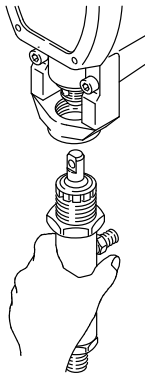

Fig. 36
**NOTE:** Some parts in Figures 36 to 40 may look somewhat different than your sprayer.
1. Screw the displacement pump into the bearing housing (27) until the pin holes align. See Fig. 36.